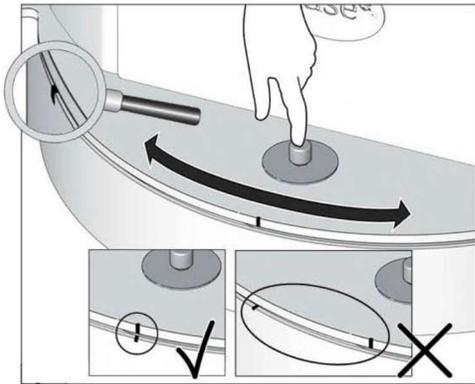

Figure 3 - Zero Index Marks
#### 1. Figure 3 - Zero Index Marks
3. Ensure the stove is in its 0-degree orientation (line up the index marks) (see fig. 3), and then position the stove to center the door on the hearth.